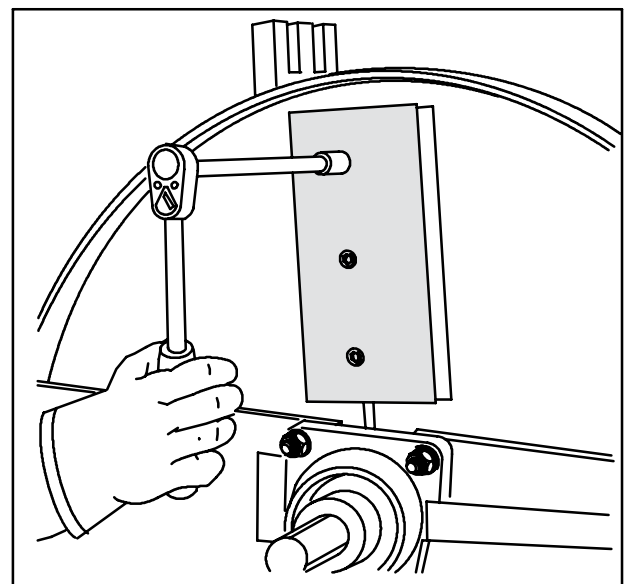

Fig 17. Removing the knife fastening bolts
2. Remove the knife fastening bolts (M12). Turn the wrench in such a way that your hands would not hit the knife if the wrench should slip. Fig. 17.